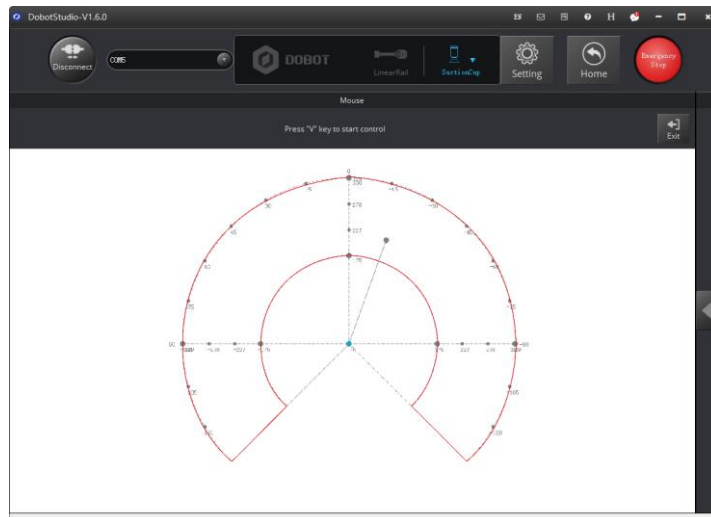

Figure 5.115 Move the robotic arm in the red annular area
- Step 5** Press **V** to enable the mouse control of the Dobot Magician. Press and hold the left mouse button to drag the mouse within the red annular area to move the robotic arm, as shown in Figure 5.115.